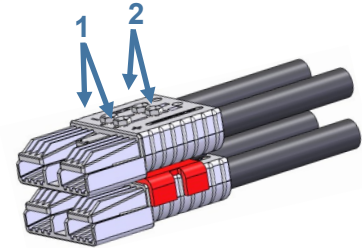

Figure 7
10. Tighten the front (1) Nuts on the Battery Connector Assembly to a torque value of 65 (in-lbs) / 7.3 (Nm) as shown (see figure 7).
11. Tighten the back (2) Bolts on the Battery Connector Assembly to a torque value of 65 (in-lbs) / 7.3 (Nm) as shown (see figure 7).